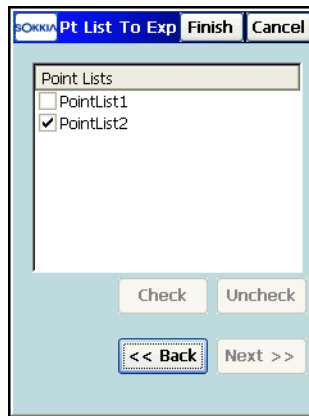

Figure 5-24. Select Point List(s) to Export
8. In the *Point List(s) to Export* screen select the point lists to export (Figure 5-24).